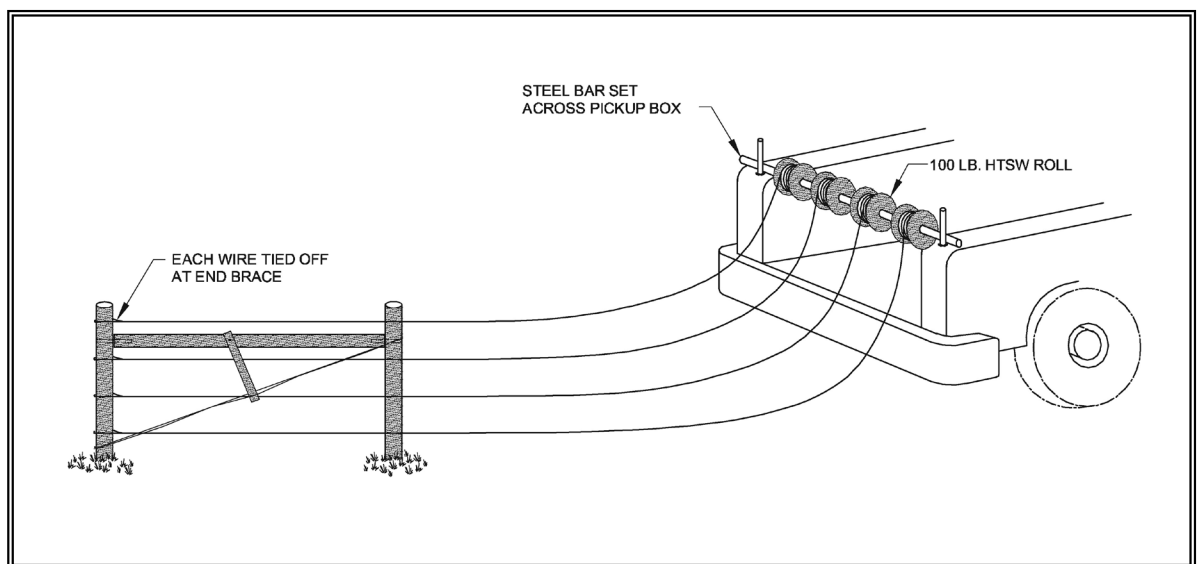

Figure 2
- mount one wire roll per strand on an ATV, tractor or pickup truck (Figure 2, below); use a “stapling stick” to staple each wire in the proper order and height on line posts (Figure 3, next page); hand pull tight and tie off at far end post.